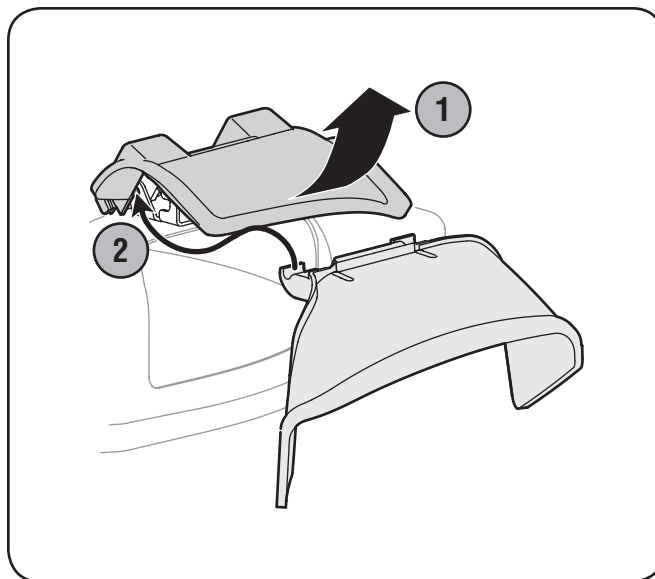

Figure 3-5
1. Lift the mulching plug. See Figure 3-5.